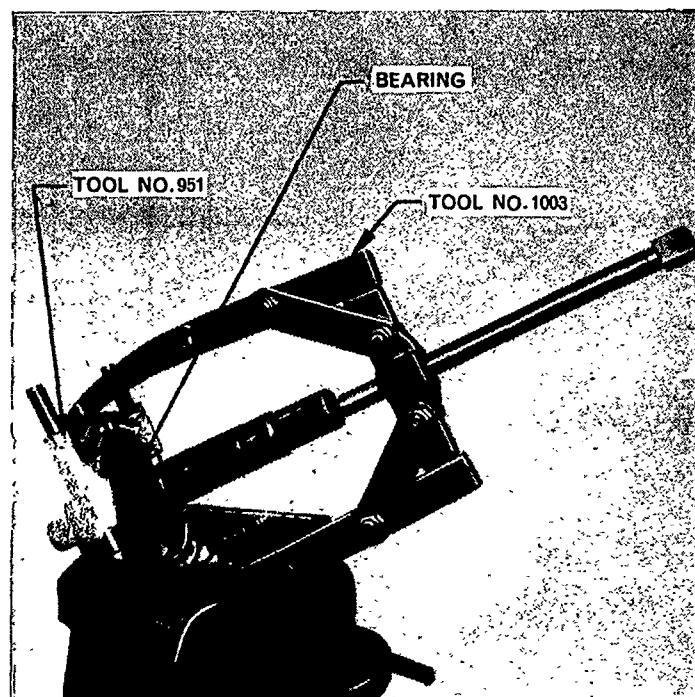

Figure 67
2. If it is necessary to install a new rear pinion cone and roller assembly, the assembly may be removed using Tool Nos. 1003 and 951, Figure 67. The new cone and roller is installed using the same tools, plus a suitable